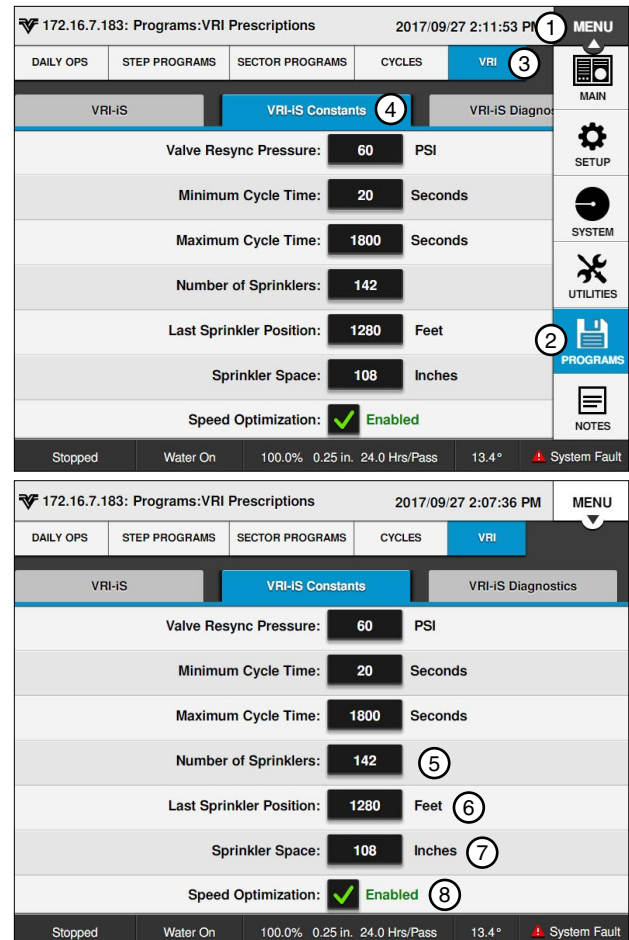

Figure 175-1 1. Menu 5. Number of Sprinklers
1. Push **Menu, Programs, VRI** and **VRI-iS Constants** to display the VRI-iS Constants screen. Refer to Figure 175-1.